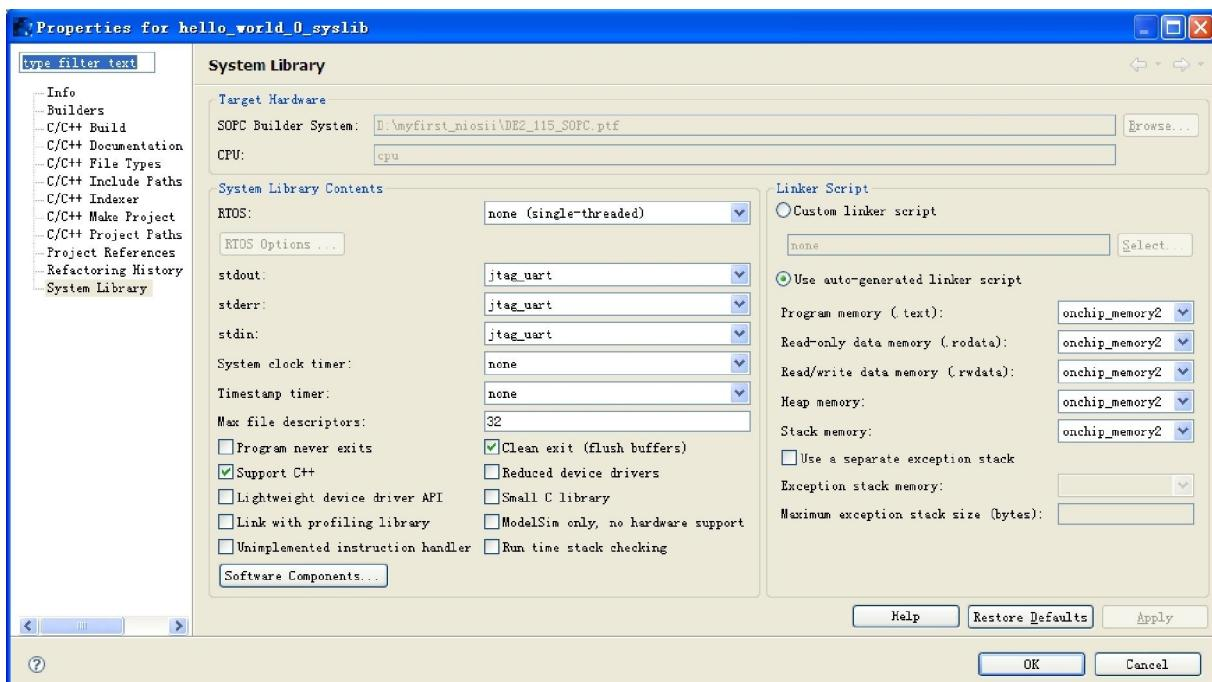

Figure 2-9 Configuring System Library Properties
3. In the **Linker Script** box, observe which memory has been assigned for **Program memory(.text)**, **Read-only data memory(.rodata)**, **Read/write data memory(.rwdta)**, **Heap memory**, and **Stack memory**, see Figure 2-9. These settings determine which memory is used to store the compiled executable program when the example **hello_world_0** programs runs. You can also specify which interface you want to use for stdio , stdin, and stderr. You can also add and configure an RTOS for your application and configure build options to support C++, reduced device drivers, etc.
4. Choose **onchip_memory2** for all the memory options in the **Linker Script** box. See Figure 2-9 for an example.